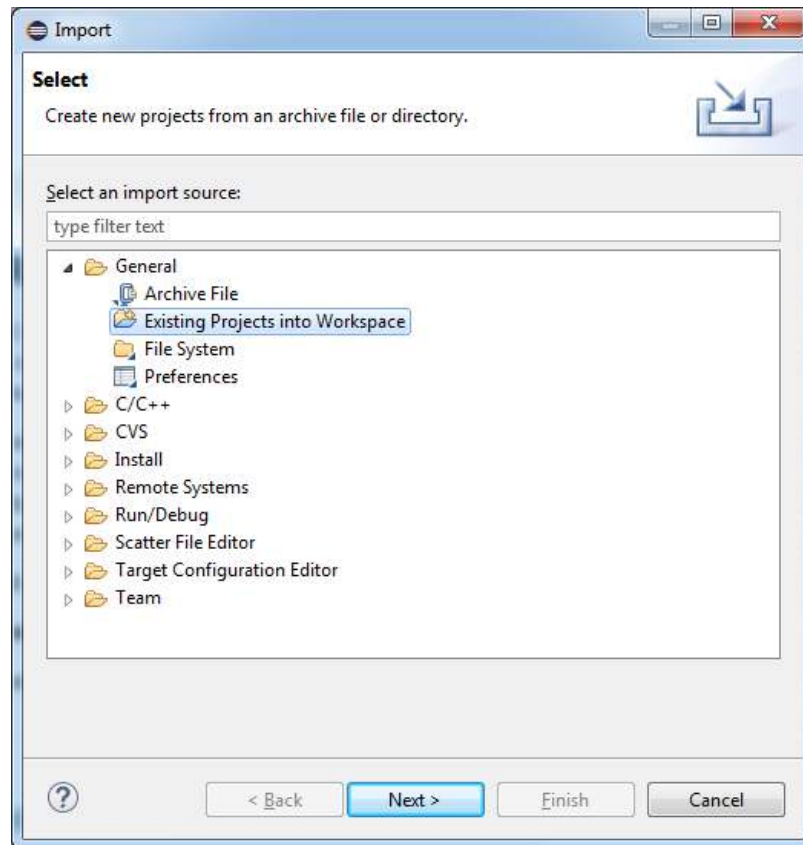

Figure 5 - Import Existing Projects
- a. Go to File → Import → General → “Existing Projects into Workspace” and click the “Next” button as shown in Figure 5.